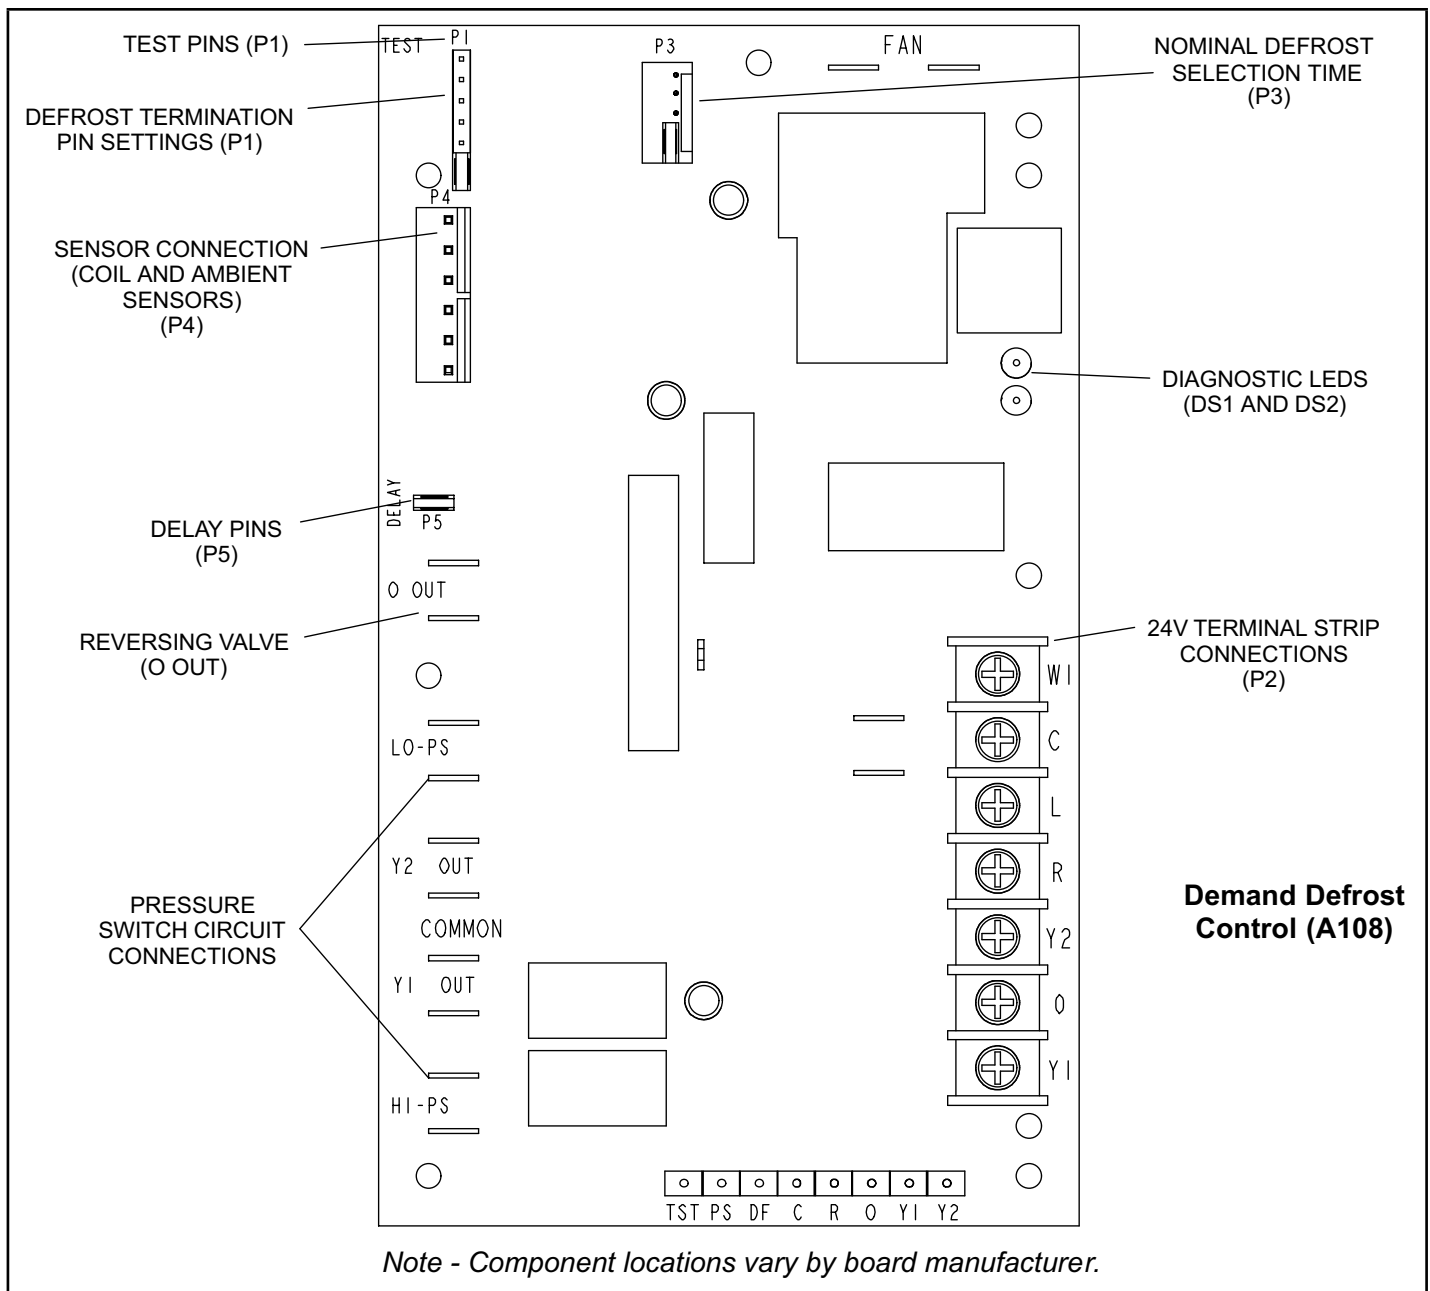

FIGURE 13. Demand Defrost Control (A108)
The demand defrost control measures differential temperatures to detect when the system is performing poorly because of ice build-up on the outdoor coil. The control *self-calibrates* when the defrost system starts and after each system defrost cycle. The demand defrost control components are shown in figure 13.
- Demand defrost control connections, jumpers and LED locations are shown in figure 13.